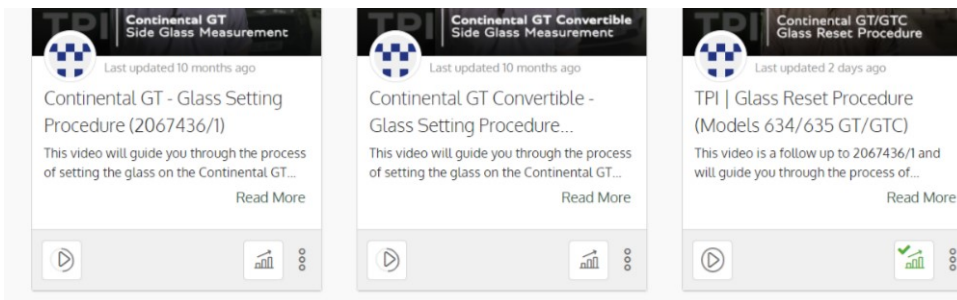

Figure 10
- The operative must review the (x3) videos which are available on the Digital Learning HUB (see example shown in Figure 10 of all videos which must be reviewed)